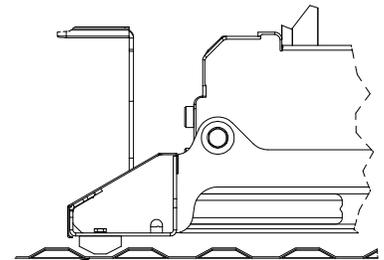

Figure B3: Back view of the driver side leg of the slider base.
- Position pads.** Square the slider base legs with the ribs of the truck. Position the polyurethane pads so that they are both in a bottom rib along their entire length, see Figure B3. Tighten the four 1/4" bolts holding the pads to the base.